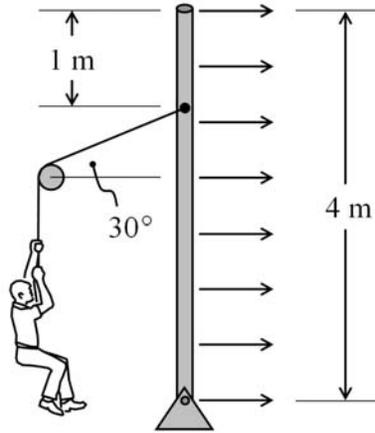

Figure 2: Upright board subject to a distributed load and a point load.
2. You are assembling a structure in a heavy wind, which acts as a distributed load  $q$  (force per length) on one of the wide boards you are erecting (Figure 2). Your friend